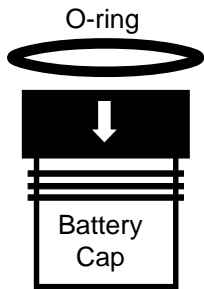

Fig. 62 - O-ring
- To install a battery cap o-ring, lubricate it lightly with silicon grease, then stretch it slightly to work it down over the head of the cap (Fig. 62). Ensure that it is evenly seated inside the groove above the cap threads. DO NOT roll it over the threads.